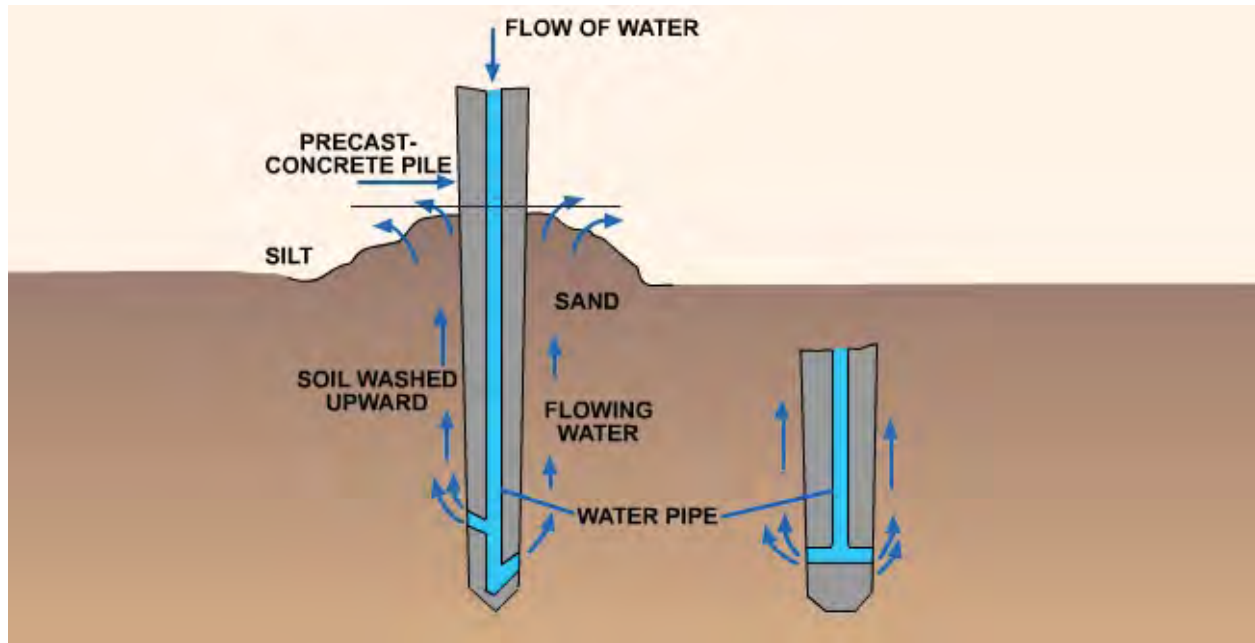

Figure 21-38 – Water jetting precast concrete pile.
- Precast concrete sections that are steel reinforced section that are square or octagonal in shape except near the tip. They vary in length up to 50-60 feet. Because of their weight, greater lengths are generally not feasible. They require time for setting and curing and storage space. Precast concrete piles are frequently driven with the aid of water jetting, as shown in *Figure 21-38*. Water is forced through and out the pile tip through and out the pile tip through jetting pipes constructed into the piles while the pile is driven.